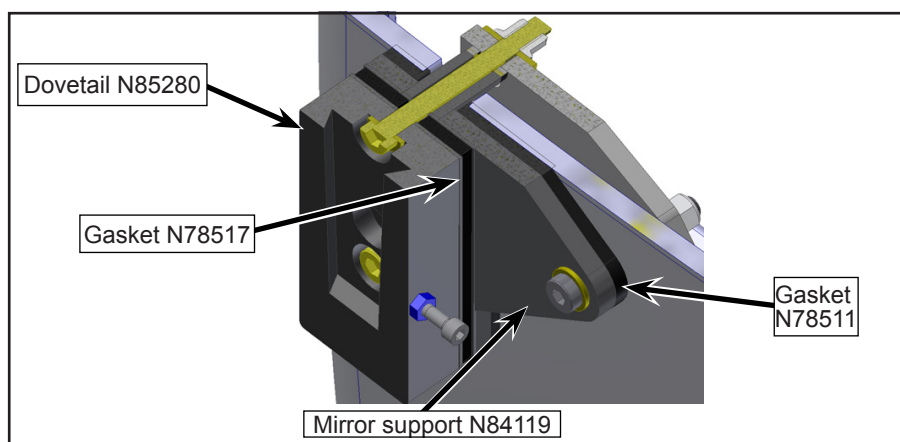

Figure 28 - Typical Location of Dovetail
- 1.32. Install original mirror onto dovetail. Typical location of dovetail is shown (see Figure 28).